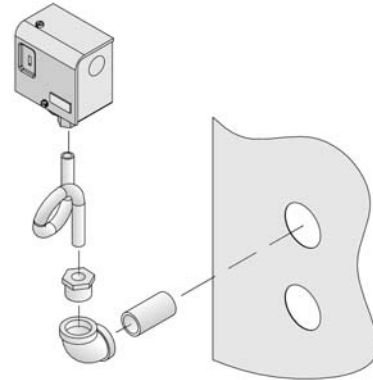

Figure 9: Pressure Limit Installation for Probe LWCO Equipped Boilers
- b. Probe LWCO only: Install Limit in Tapping "A" using $\frac{3}{4}$ " NPT x 3" long nipple, $\frac{3}{4}$ " NPT elbow, $\frac{3}{4}$ " NPT x $\frac{1}{4}$ " NPT bushing, and syphon. See Figure 9.